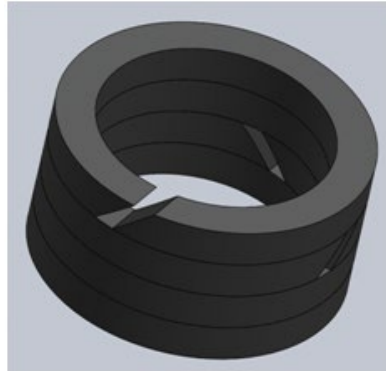

Figure 7. Packing Ring Orientation
- Note the orientation of the packing rings as shown (See Figure 7). The gap in each ring is exaggerated to show the orientation of the 45° cut. Also note the final orientation of the rings requires each gap to be staggered 90° from the adjacent ring.